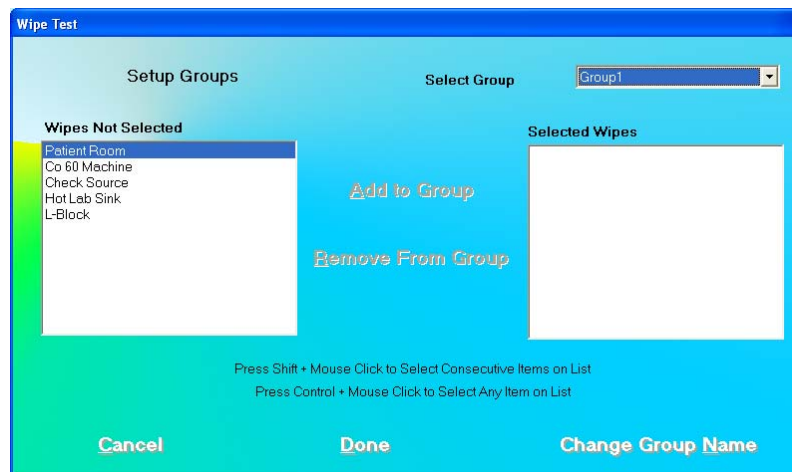

Figure 8-6 Setup Groups Screen
1. Click the **Setup Groups** button or press *Alt+G* on Figure 8-2 Wipe Test Main Screen. Figure 8-6 will appear.
- b. Click the **Done** button to save changes or click the **Cancel** button to cancel the changed name and return to Figure 8-6 Setup Groups Screen.
6. Click the **Done** button on Figure 8-6 Setup Groups Screen to save changes or click the **Cancel** button to cancel the changes and return to Figure 8-2 Wipe Test Main Screen.